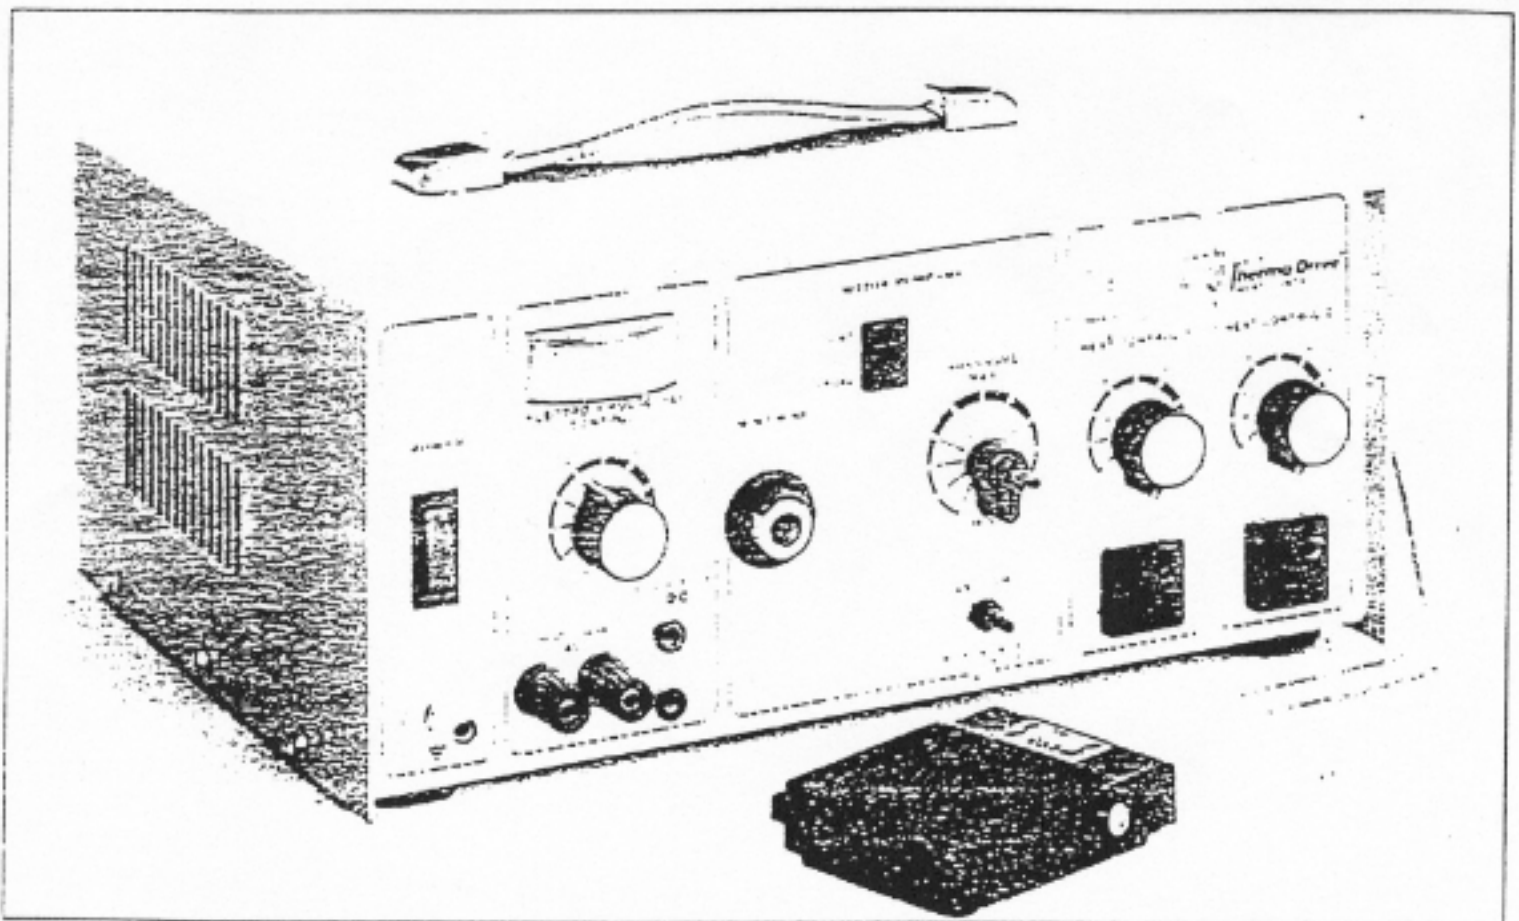

FIGURE 1. PACE REPAIR SYSTEM PRC-151 (PACE POWER SOURCE PPS-101)
- PACE Model PRC-151 (domestic) with PPS-101 Power Source (refer to Figure 1),
- PACE Model PRC-151BE (export) with PPS-101BE (220VAC) Power Source (refer to Figure 1)